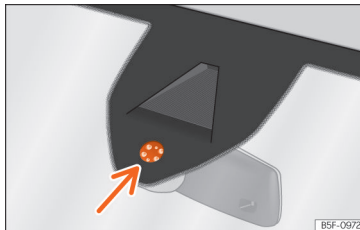

Fig. 100 Rain sensor sensitive surface
Possible causes of faults and mistaken readings on the sensitive surface »» Fig. 100 of the rain sensor include:
- Clean the sensitive surface of the rain sensor regularly and check the blades for damage »» Fig. 100 [arrow].